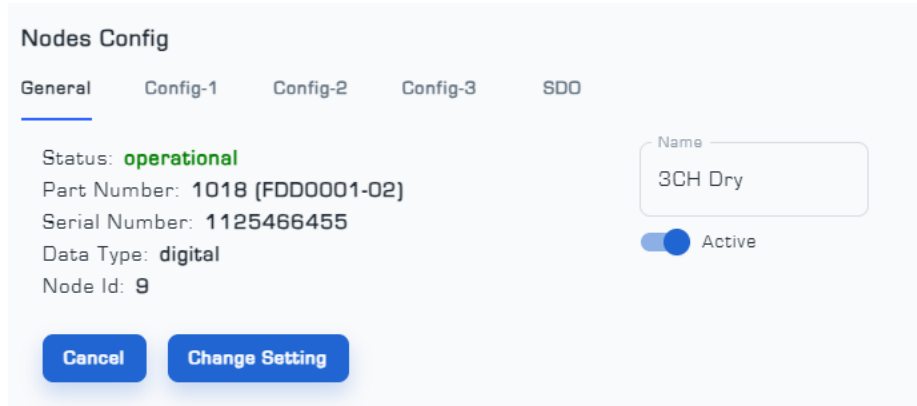

Figure 6: General Menu from Node Config Page
To apply the settings to the Node, click on it to display the Node settings page (Nodes Config) (Figure 6).
- The General menu includes information about the Node status, model, serial number, input data type, and Node number. You can also choose a custom name for the Node and even deactivate it if necessary (Figure 6).